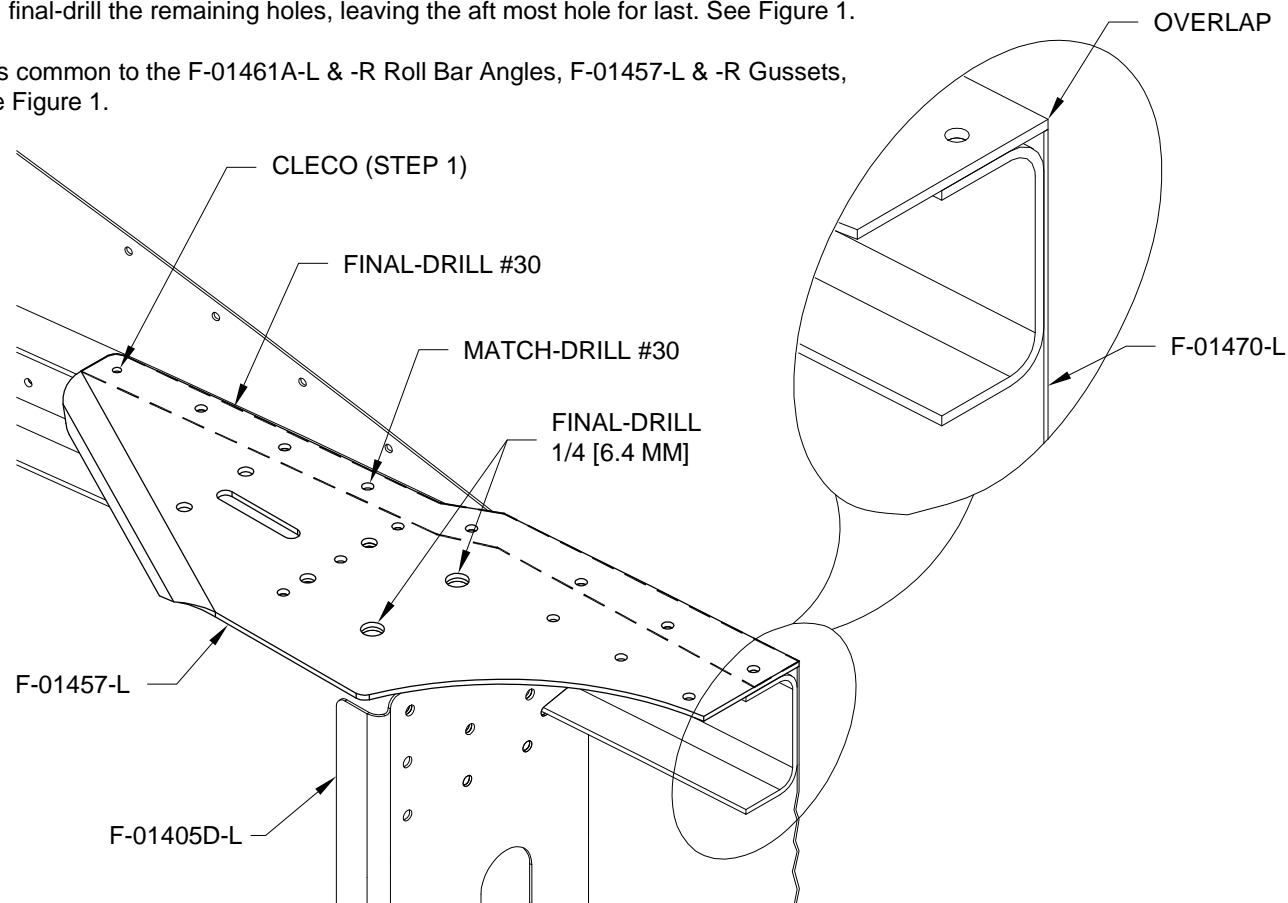
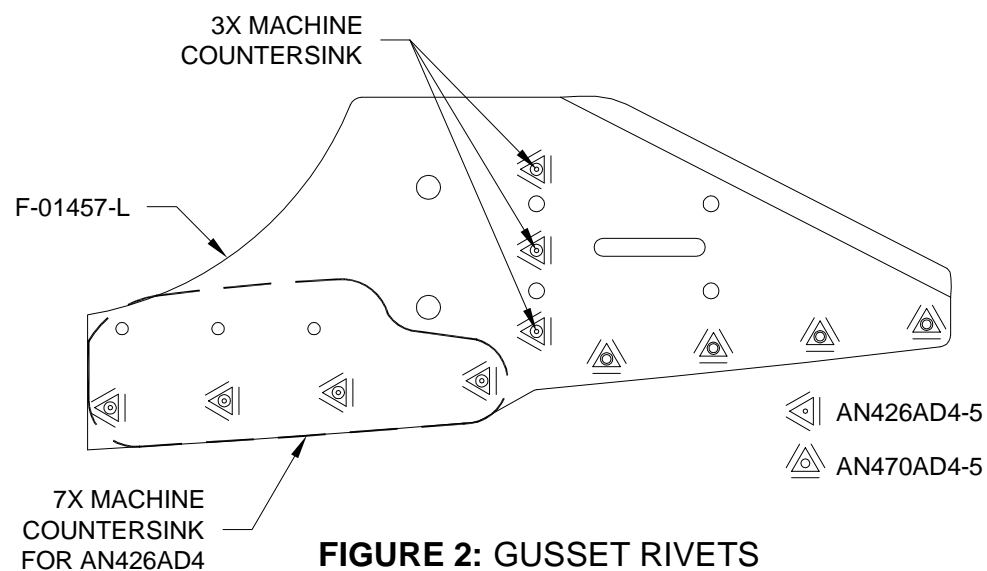

FIGURE 1: MATCH-DRILL GUSSET
FIGURE 2: GUSSET RIVETS
Step 7: Cleco, temporarily bolt, and rivet the F-01457-L & -R Gussets to the Upper Longeron Assemblies. See Figure 1, Figure 2, and Page 29-21, Figure 1.